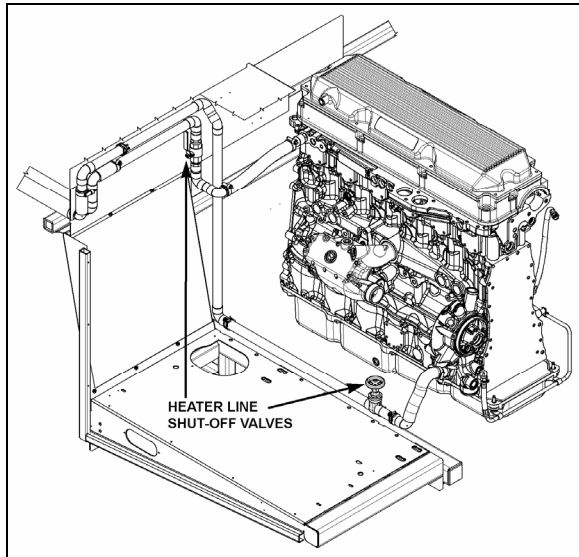

FIGURE 44: HEATER LINE SHUT-OFF VALVES 22326
**On X3 Coaches**, the valves are located in engine compartment. One is on the L.H. side of compartment in front of the radiator and the other valve is located under the radiator fan gearbox (Fig. 44).